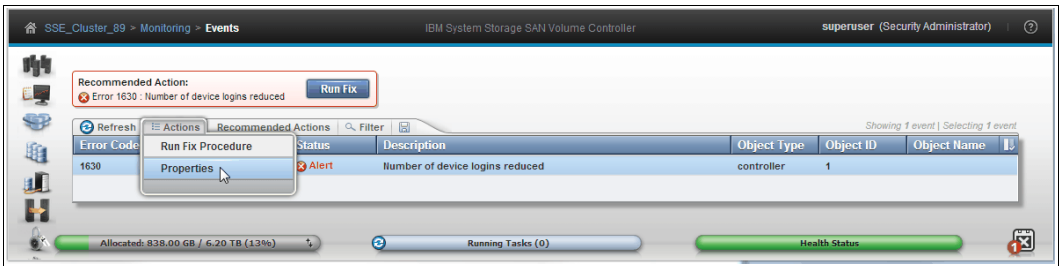

Figure 10-3 Event properties action
2. Click **Properties** in the Actions menu, as shown in Figure 10-3.